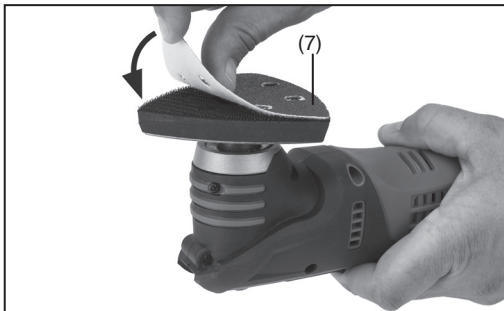

FIG. 5
6.2 MOUNTING/CHANGING THE SANDING SHEET – FIG. 5